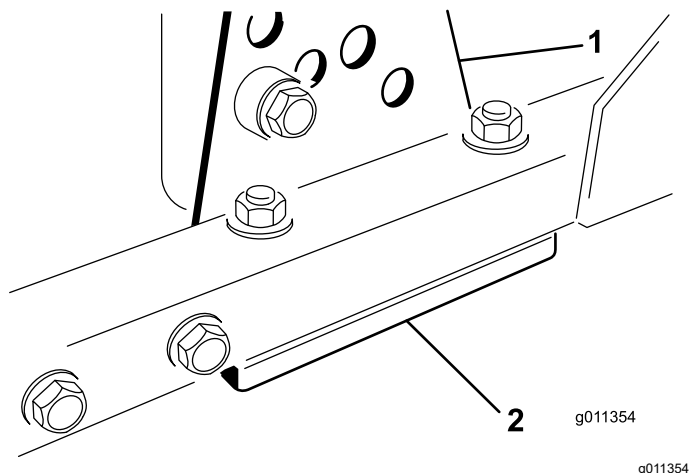

Figure 83
1. Remove the height-of-cut bracket, (front, left, or right) from the cutting-unit frame (Figure 83).
2. Adjust 1.5 mm (0.060 inch) shims and/or 0.7 mm (0.030 inch) shims between the cutting-unit frame and bracket to achieve the desired height setting (Figure 83).